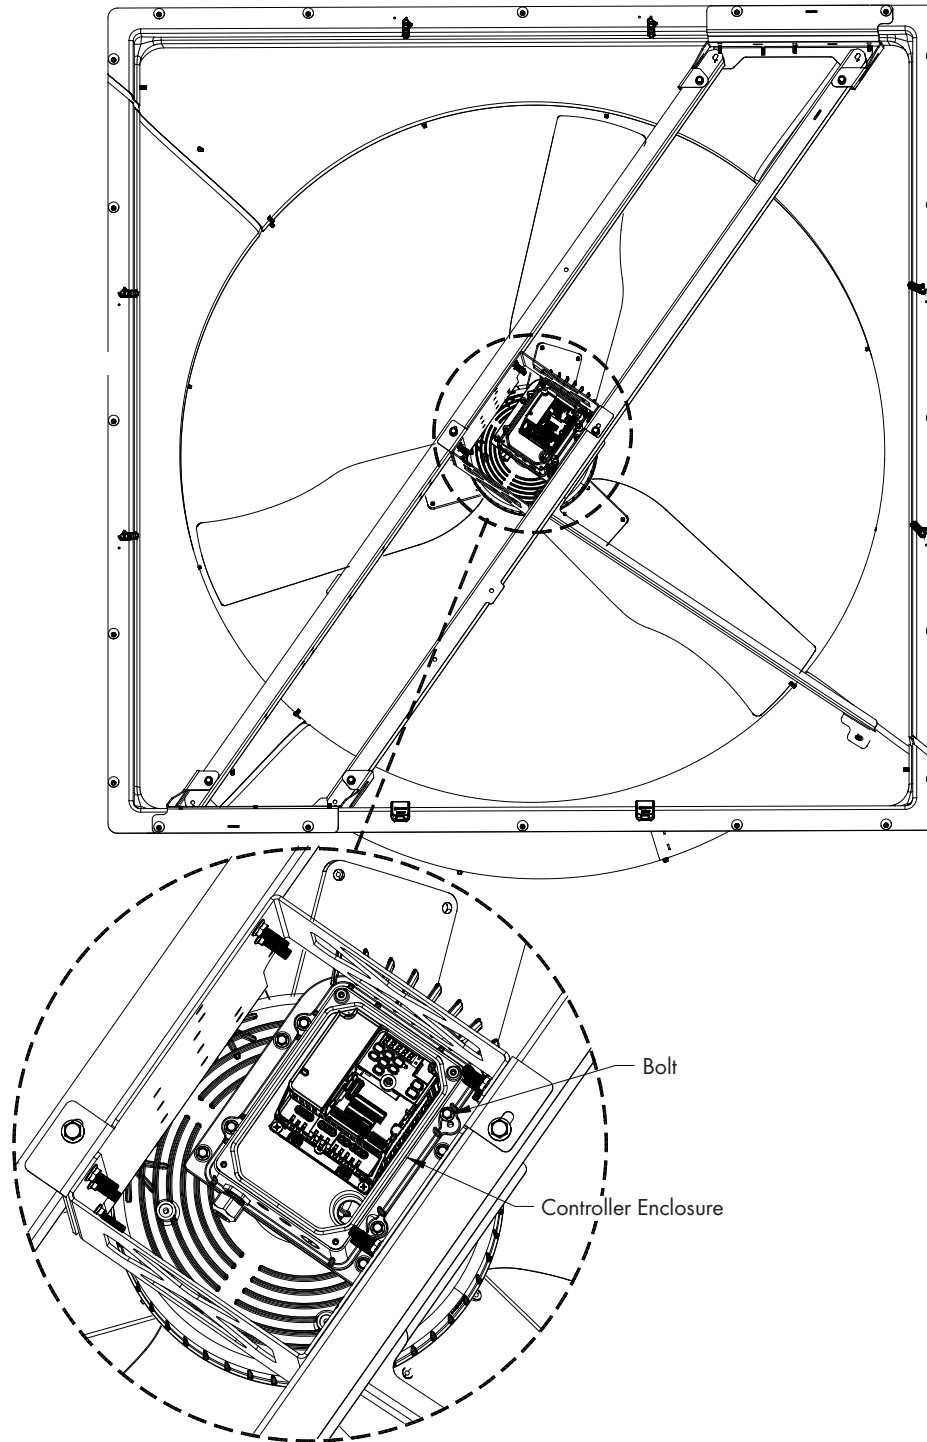

Figure 3
Remove the blue Controller Enclosure from the heat sink by removing the (4) Bolts holding it in place. Save the bolts to reinstall the enclosure later. See Figure 3.